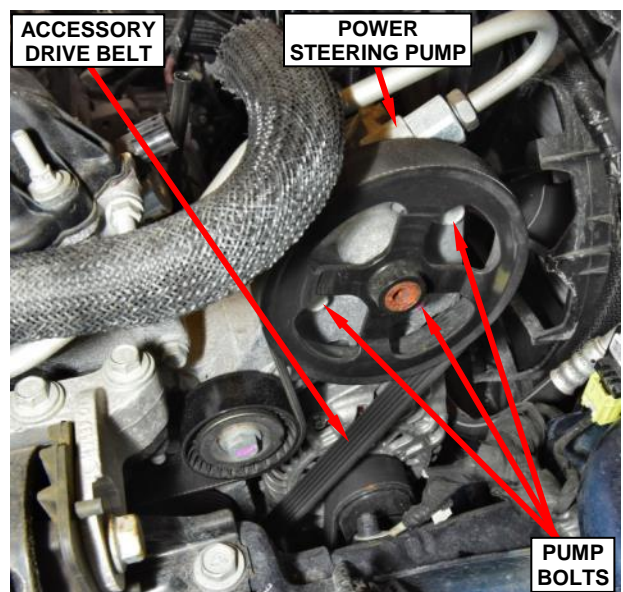

Figure 25 – Power Steering Pump
84. Remove the accessory drive belt (Figure 25).
85. Remove and save the three power steering pump mounting bolts accessed through the pump pulley openings (Figure 25).